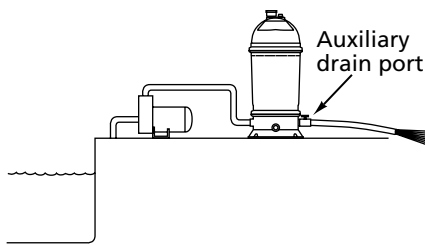

Figure 19
2. Attach garden hose or drain hose to Auxiliary Drain Port (See Figure 19). Position hose so that water runs away from pool to wastewater disposal area.